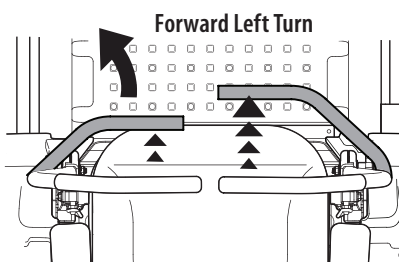

Figure 27
1. To turn to the left, move the left drive control lever rearward of the right lever (Figure 27).